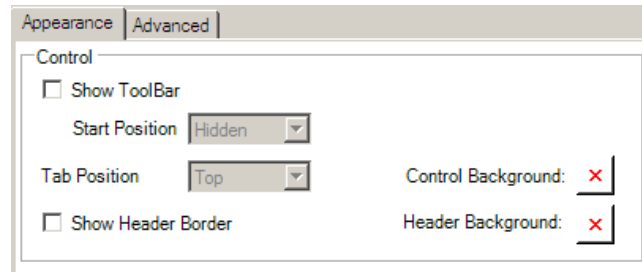

Figure L5.2 - Alarm Viewer Appearance Tab
3. In the Appearance tab on the right-hand pane, uncheck the "Show Toolbar" option. This will disable the runtime toolbar where the user can use it to acknowledge alarms. Your Appearance tab should look similar to Figure L5.2.